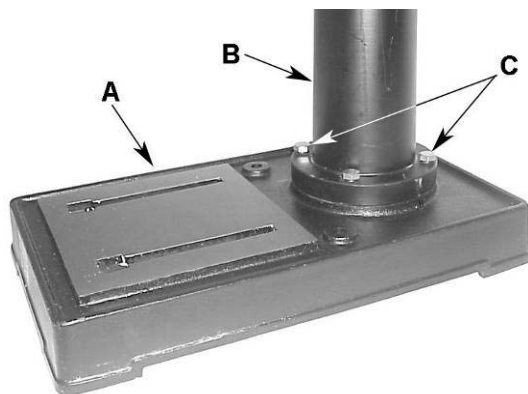

Figure 1
Referring to Figure 1:
1. Place the *base* (A) on a level floor.
2. Place the *column assembly* (B) on the *base* (A) and align the holes in the column support with the holes in the base.
3. **Note:** The column shown in Figure 1 is for the JDP-15MF. While the JDP-15M column is slightly different in appearance, the assembly procedure is the same.
4. Using a 17mm wrench, secure the *column* (B) with four M10 x 40 *hex cap screws* (C) to the base.